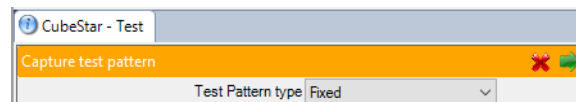

Figure 41 – Capture Test Image Tab
1. Navigate to the *CubeStar – Test* tab and select the *Fixed* test pattern as shown in Figure 41. Transmit the command with the  button.